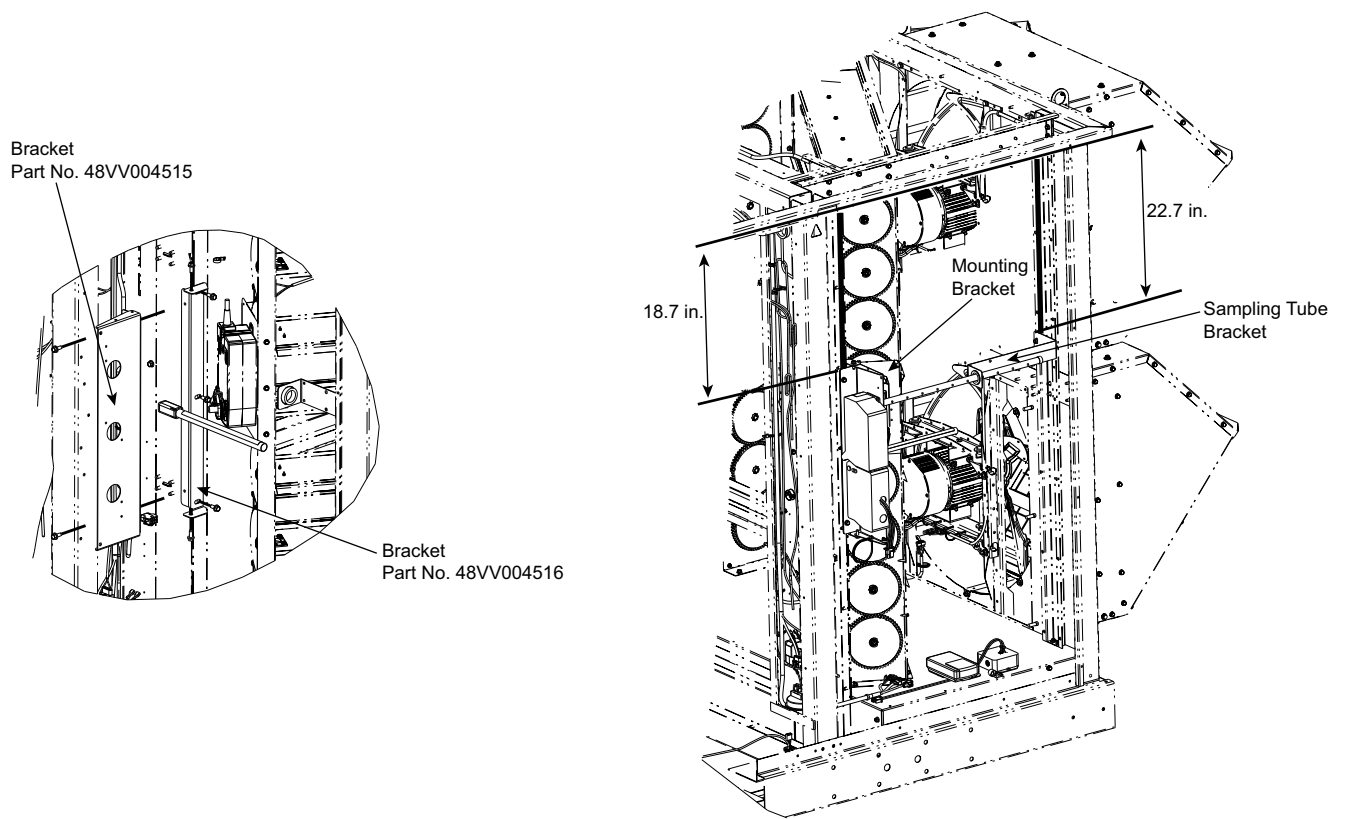

Fig. 14 — Installing Sensor and Sampling Tube Mounting Bracket (27-50 Ton Units Shown)
3. Identify the mounting location and install the mounting bracket assembly in the return air opening. See Fig. 14 for mounting bracket example.
12. Secure the smoke detector to the mounting bracket using the provided self-tapping screws. See Fig. 14 for assembly.